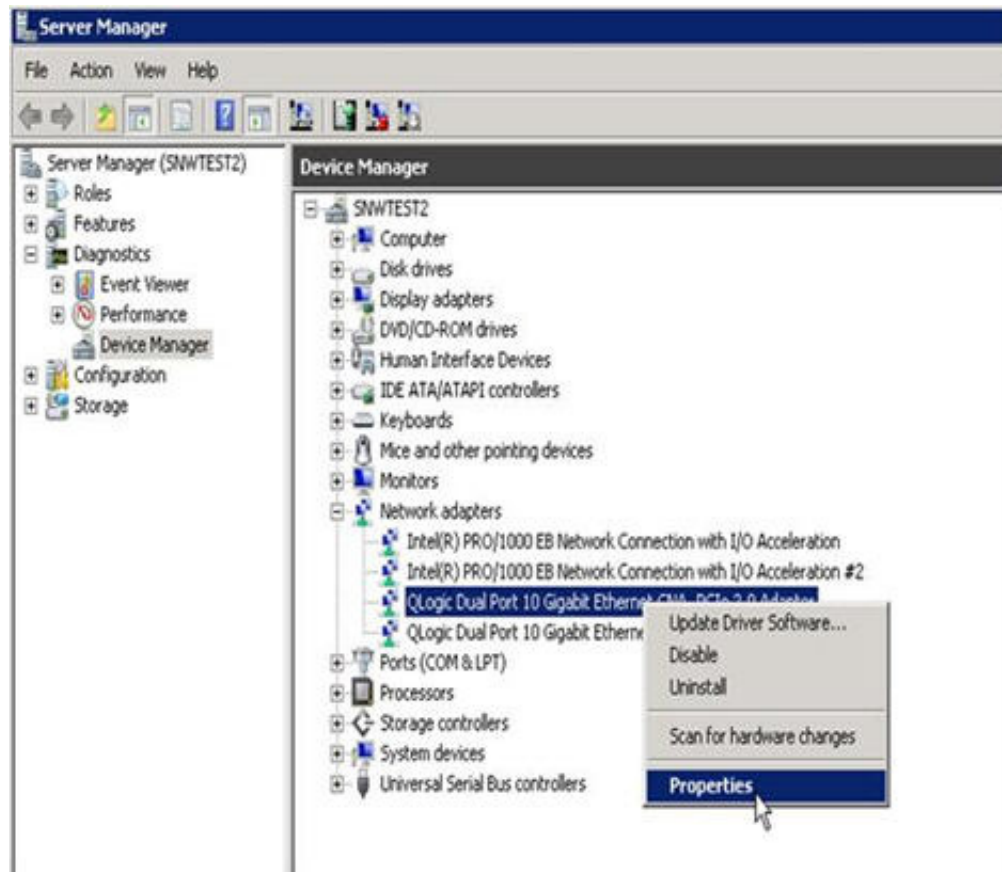

Figure 2-39. Selecting Properties from the Context Menu
3. Right-click the first **QLogic 10 Gigabit Ethernet CNA** device and select **Properties** from the context menu (Figure 2-39).